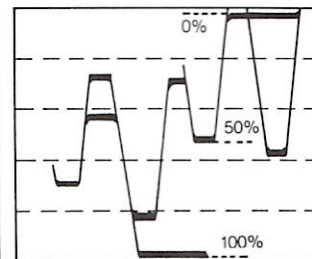

Fig. 7
6. Adjust the waveform as shown in the diagram with VR603. (Refer to Fig. 7)